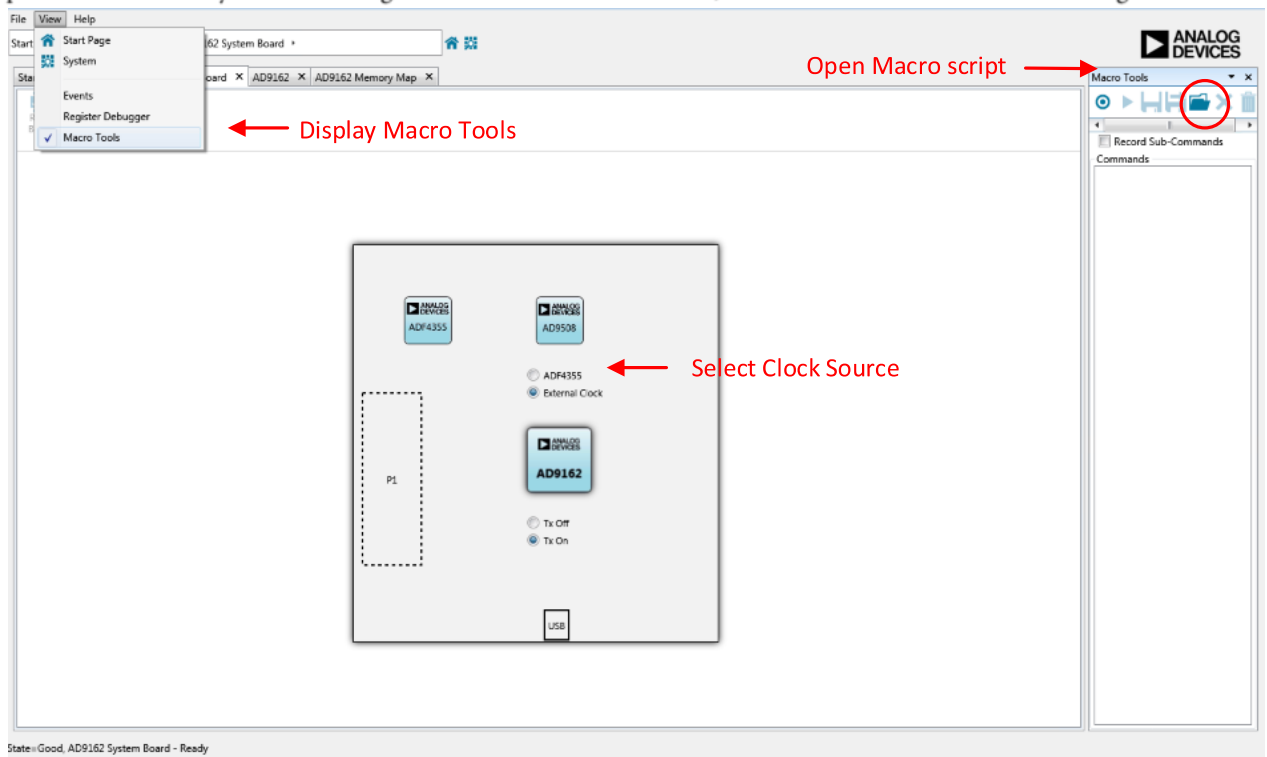

Figure 14. AD9162 Eval Board View and Clock Source Selection in ACE
1. Open the board view by double clicking on the AD9162 Eval Board area, then select clock source as shown in Figure 14.